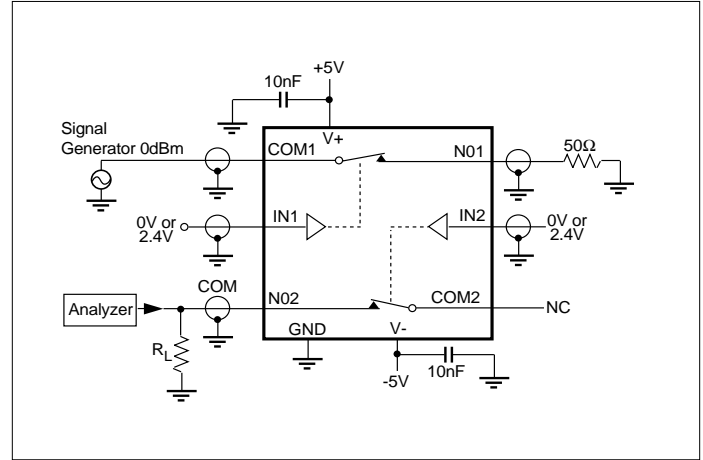

Figure 6. Crosstalk
- Between any two switches. See figure 6.
8. Between any two switches. See figure 6.